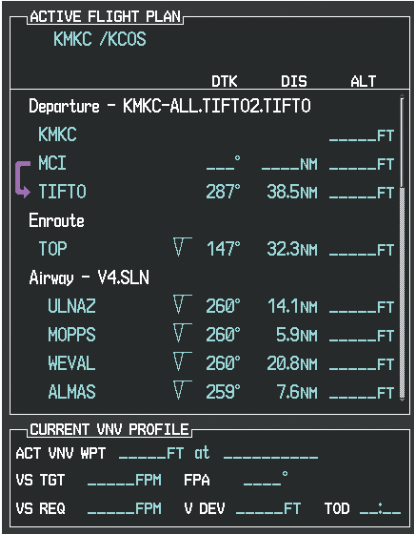

Figure 7-19 V4 is Loaded in the Flight Plan
l) V4 is now loaded into the flight plan as shown in Figure 7-19.